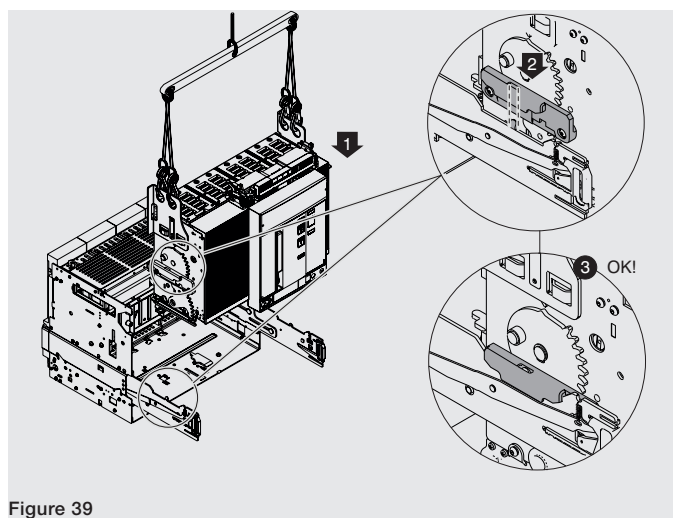

Figure 39
4. Position the moving part on the guides of the fixed part. Latch by inserting the hollow part of the side in the latch of the guide of the fixed part See Figure 39.